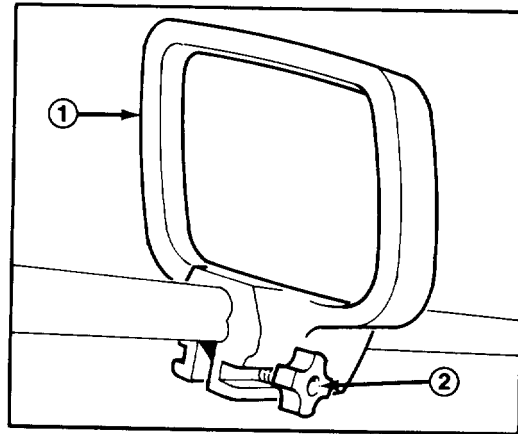

Figure 2
## SECURE SUPPORT HANDLE (Fig. 2)
1. Rotate support handle upright and adjust to comfortable operating position. Tighten handle knob securely (Fig. 2).